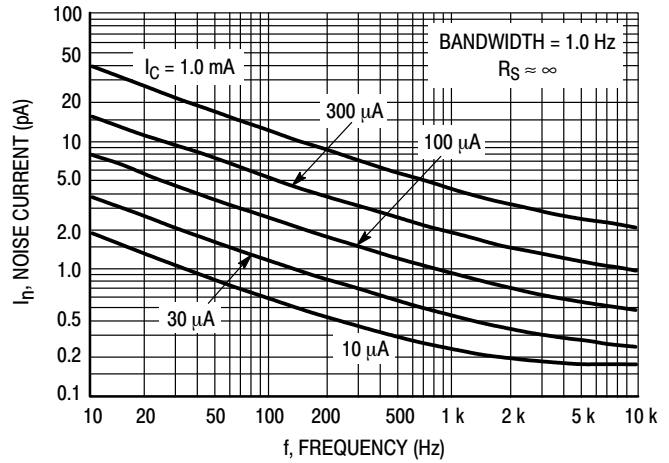

Figure 4. Noise Current
- $I_n$  = Noise Current of the Transistor referred to the input. (Figure 4)